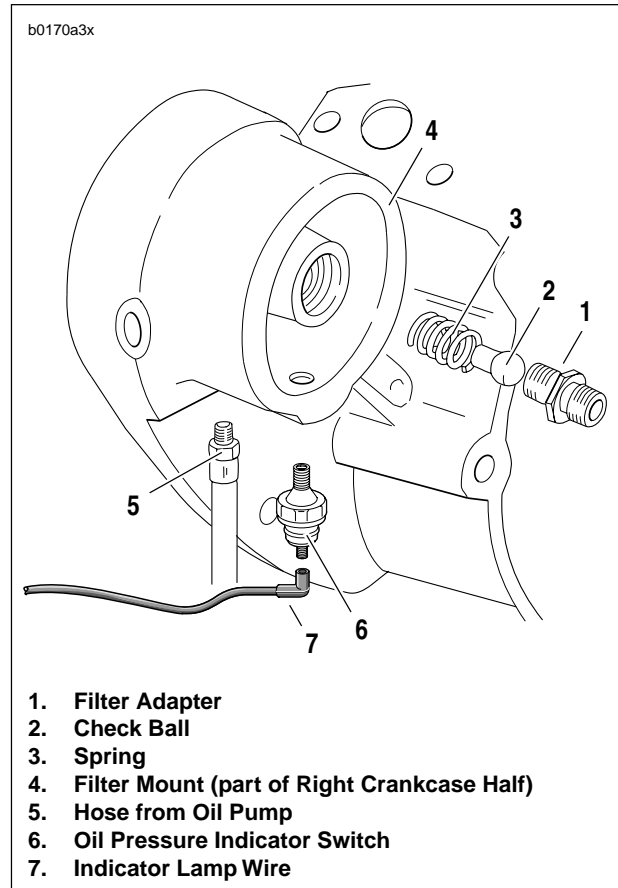

Figure 3-55. Oil Filter Mount
See Figure 3-55. Oil is pressure-fed from the oil pump to the filter mount (4) via a hose (5). Oil travels through the filter mount into the filter via outer filter holes.